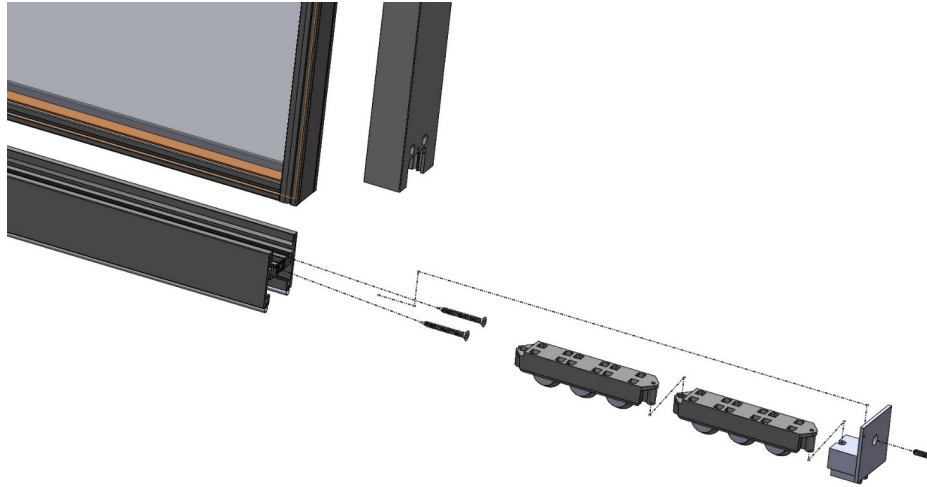

Figure 11
7. If needed and for adjustment, the roller assembly can be shimmed individually or per side with supplied shim stacks. Each shim is .015" thick and up to three (3) roller shims per roller assembly can be used. Once the roller assembly is set into the panel, continue with the opposite side.
8. With the weight of the panel on the rollers, slide the panel to the lock jamb and ensure that the vertical gap is consistent from top to bottom and no additional shimming is needed. For the interlocker side of the panel, fasten the end sweep onto the stile with #8 x 1" PH Flat head screw. For the lock stile side of the panel, fasten the lock stile end sweep using two (2) #10 x 1.5" PH Flat head screws. Then fasten the cover using two (2) #10 x 3/4" PH Flat head screws.
10. Identify the correct quantity of roller assemblies and connect by sliding one (1) roller assembly onto the other. Repeat this step for all required rollers. Once all rollers are linked together, slide the end sweep onto the roller assembly and set roller assemblies in front of panel.
11. Taking care not to scratch or shift the lead panel over, with a pry bar, lift the panel high enough to slide the roller assembly system into place. Ensure that all rollers rest onto the track cap and roll freely. See **Figure 11**.